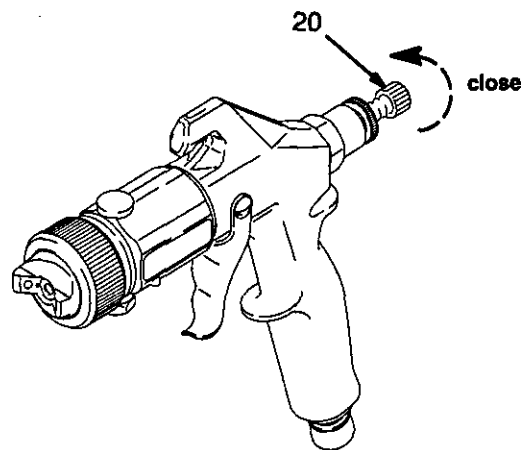

Fig. 9
3. If further fluid adjustment is needed at the gun, turn the fluid adjustment knob (20) clockwise to reduce the volume of fluid output and obtain the desired results. See Fig. 9.